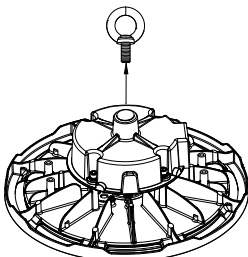

Figure 4
1. Remove the original ring from the driver. (Figure 4)